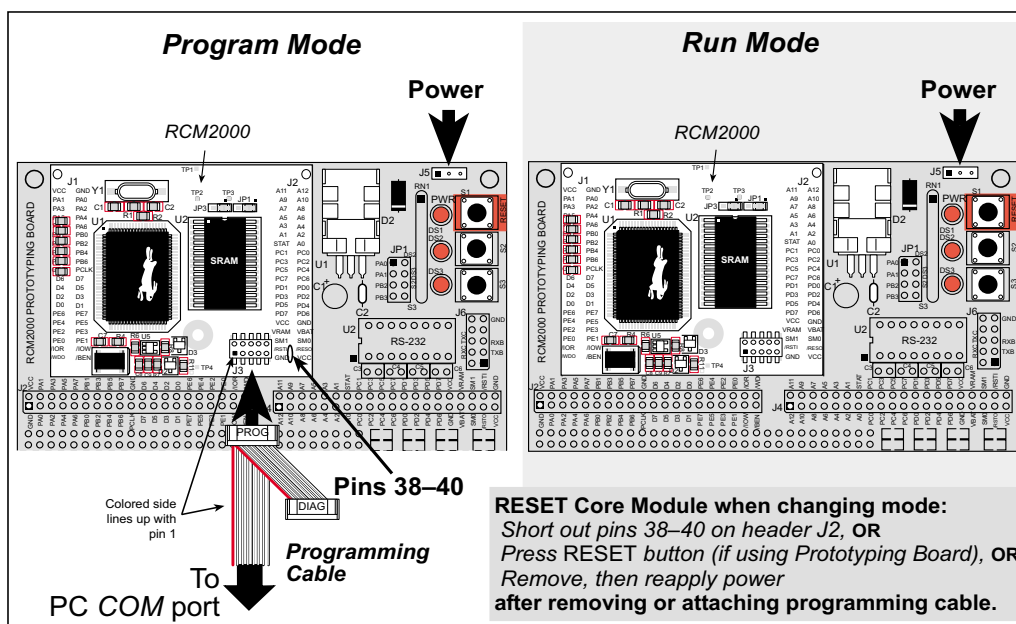
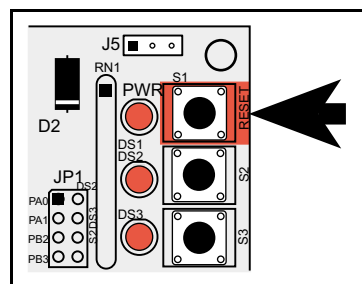

Figure 1. RCM2000 Program Mode and Run Mode Setup
Figure 2. Location of Prototyping Board Reset Button
2. Reset the RCM2000. You may do this as explained in Figure 1. Figure 2 shows the location of the RESET button on the Prototyping Board.
4. Reset the RCM2000. You may do this as explained in Figure 1. Figure 2 shows the location of the RESET button on the Prototyping Board.